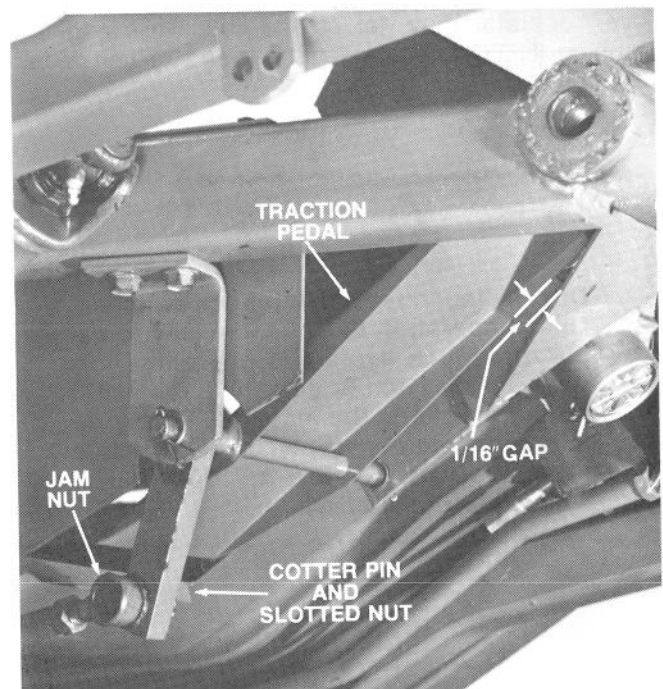

Figure 15
2. Depress traction pedal fully. There must be 1/16 of an inch between inside front edge of pedal and triangular support brace (Fig. 15). If distance is as specified, the control rod is adjusted correctly. If distance is not as specified, proceed to step 3 for an adjustment.
3. Loosen jam nut from front of control rod (Fig. 15). Remove cotter pin and slotted nut retaining tapered socket in pivot mount on bottom of traction pedal (Fig. 15).